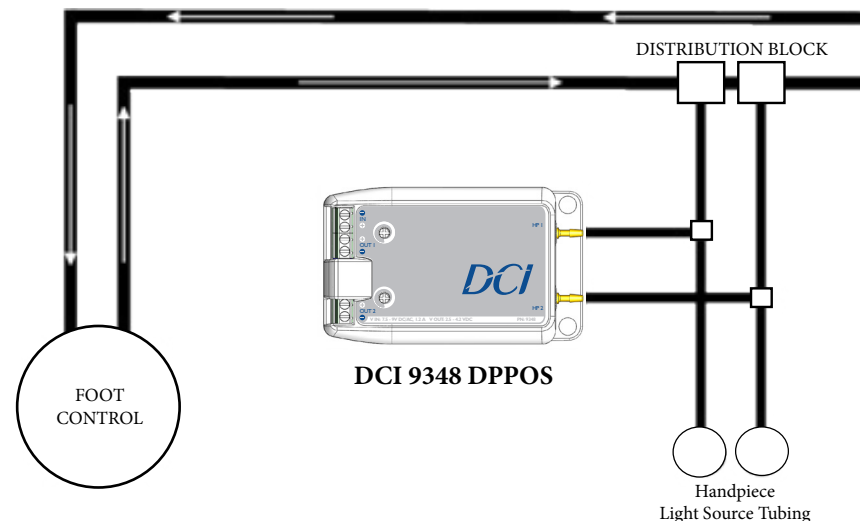

Fig. 1 - DPPOS Installation
1. Handpiece light source tubings are available in various styles and colors to be compatible with dental unit colors and desired handpiece connections. If the unit doesn't already have a handpiece light source tubing, replace the entire existing handpiece tubing with one that is compatible with the particular handpiece being used. Install a 1/8 x 1/8 x 1/16 plastic tee and air sensing tube assembly into the drive-air line of the appropriate handpiece position not more than 12" from the desired location of the DPPOS. See Fig. 1.